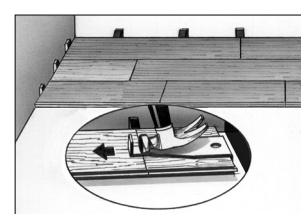

Figure 11
- Use a pull bar when necessary to ensure joints are tight (Fig. 11).